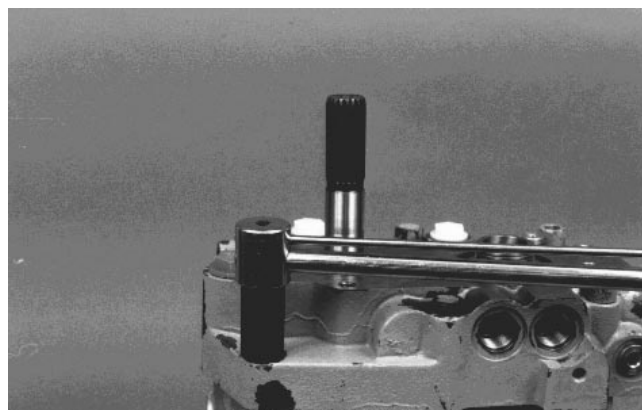

Figure 76
21. Install the six (6) screws that retain the center section to the housing and torque evenly to 33 to 41 ft-lb (Fig. 76).